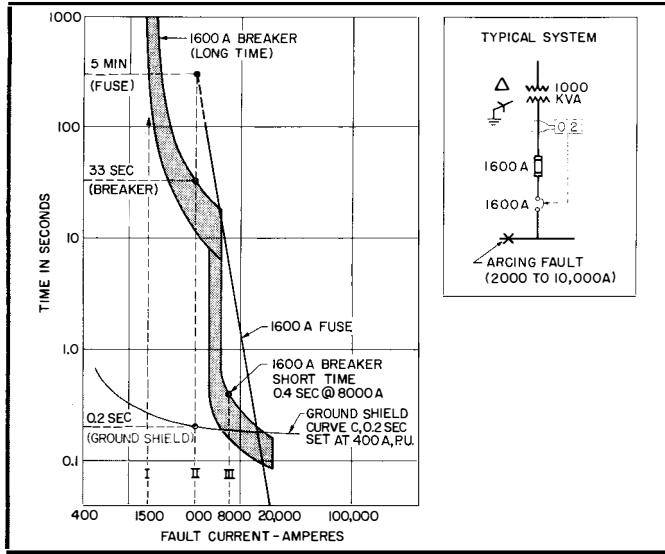

FIGURE 2
The basic need for ground-fault protection in low-voltage systems is illustrated in Figure 2. Shown is a 1000kVA service transformer with a 1600 ampere main breaker (with typical long-time and short-time characteristics) and fuse. A 1500A ground-fault (Point I) on the 480Y/277 grounded neutral system would not be detected by this breaker. A 4000A ground-fault (Point II) could persist for about 33 seconds even if the minimum long-time band were used. An 8,000 ampere ground fault (Point III) would be cleared within about .2 to .4 seconds by the short-time device, assuming it is present, otherwise, between 8 to 20 seconds would elapse before the fault is cleared. For the assumed 8,000A fault, even though the current values are the calculated result using all source, circuit and arc impedances, the actual RMS circuit values passing through the circuit breaker can be considerably lower. This is because of the spasmodic nature of the fault caused by (1) arc elongating blow-out effects, (2) physical flexing of cables and some bus structures due to mechanical stresses, (3) self-clearing attempts and arc re-ignition, and (4) shifting of the arc terminals from point to point on the grounded enclosure (as well as on the faulted conductors for non-insulated construction). All of these effects tend to reduce the RMS value of fault currents. Figure 2 also illustrates that a ground-fault which would normally produce 8,000A under stabilized conditions and which results in an effective
value of only 4000A (Point II) would have a maximum clearing time of 33 seconds instead of the normally expected maximum of .4 seconds. Other fault interrupting devices such as fuses (Note from Figure 2 that a 1600A fuse takes 5 minutes to clear a 4000A fault) which have far slower operating times at low fault currents, have even a greater need for supplementary ground-fault protection. Most of these devices have time-current characteristics which delay tripping for about 100 seconds for fault currents 200% to 300% of normal continuous current rating.